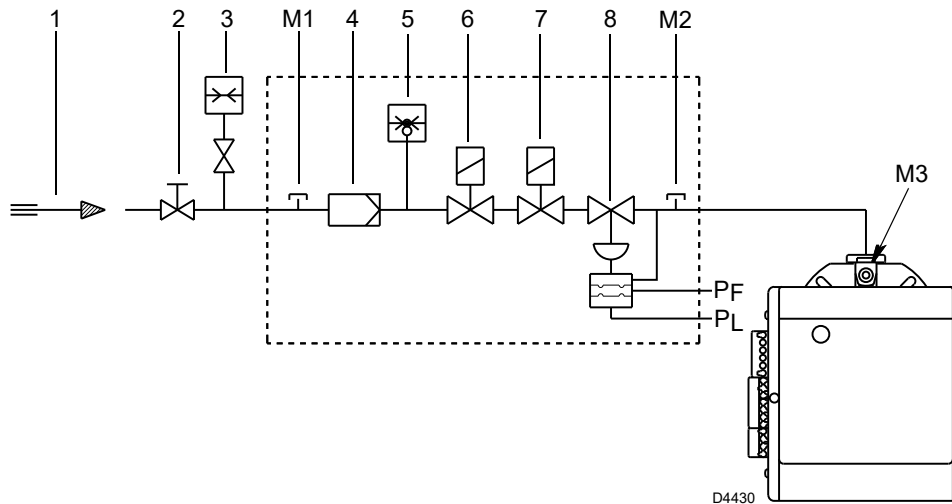

Fig. 14
Key (Fig. 14)
Gas pressure measured at test point M3)(Fig. 14), with:
- subtract the pressure in the combustion chamber from the pressure of the gas at test point M3)(Fig. 14).
Gas pressure at test point M3)(Fig. 14) = 10 mbar
To calculate the required gas pressure at test point M3)(Fig. 14), set the maximum modulating output required from the burner operation:
- In column 1, on the right, read the pressure at the test point M3)(Fig. 14).